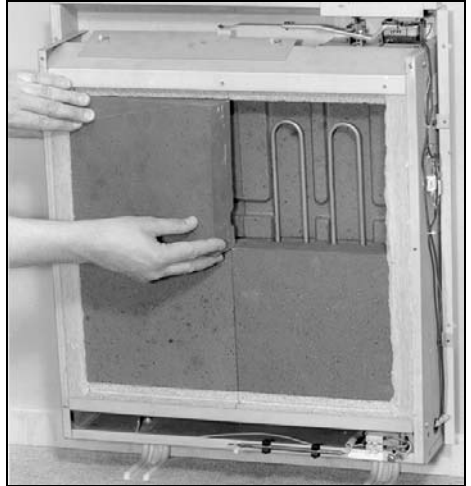

fig.20
- Build up the complete rear brick columns. Reinstall the heater elements (fig.20). **Make sure that the element connection tabs are not damaged and also, that they fit neatly into the openings in the lower insulation.**
Build up the complete front brick columns (fig.20). **Make certain that the front and back row of bricks are flush to each other.**